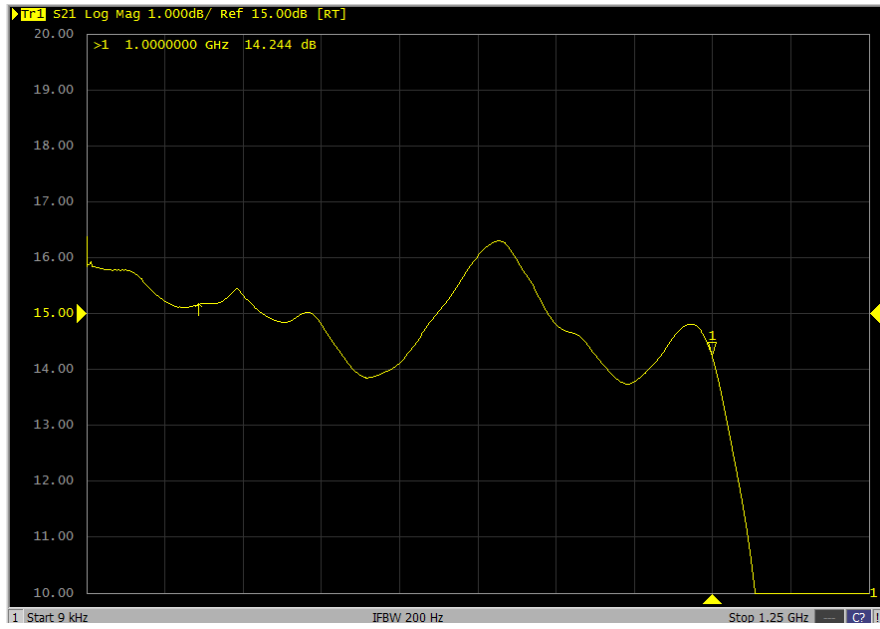

Figure 4-3. Typical U Final Module Response
2. Typical A2 Driver Module response is shown in Figure 4-3.